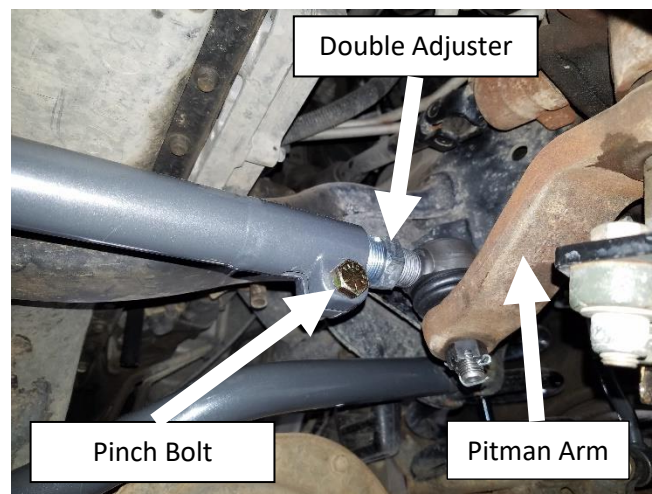

Figure 15. Pitman Arm Side of Synergy Drag Link Shown with Pinch Bolt Down
23. Synergy 8567-11 drag links are oriented with the pitman arm side pinch bolt down. See **Figure 15**.